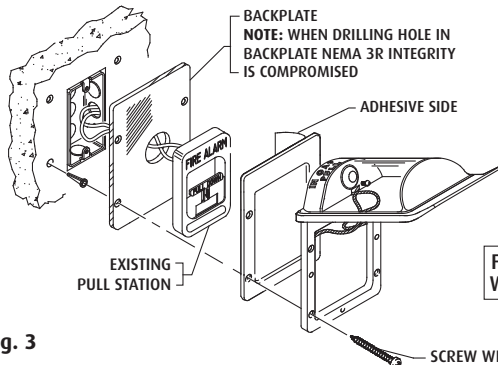
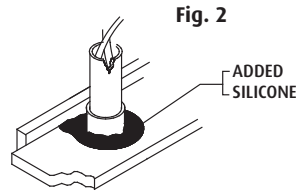
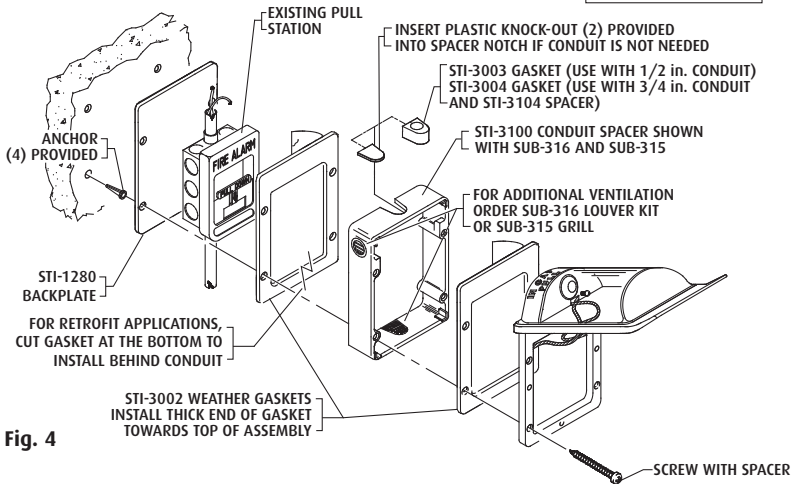

Fig. 3
Fig. 2
Fig. 4
3. If using STI-1280 backplate, refer to Fig. 3 and 4 for install instructions depending on your application.
NOTE: When using STI-3100 spacer, be sure to install conduit knockout (2 provided), any additional ventilation (sub-315 grill and sub-316 louver kit), and gaskets before you tighten to the wall. When using conduit gasket (use STI-3003 with 1/2" conduit and STI-3100 spacer or use STI-3004 with 3/4" rigid conduit and STI-3104 spacer) place gasket around conduit in proper location and tighten frame over spacer. For added protection a bead of silicone may be applied to conduit fitting and between STI-1280 backplate and wall. See Fig. 2. Refer to exploded view of flush and surface mount installation options Fig. 3 and 4.
Use of gaskets is necessary to ensure a proper seal in weatherproof applications. Weather Stopper models ship complete with all necessary gaskets and should be used accordingly. For flush mount weather applications, one STI-3002 must be used between the cover and wall or backplate (see Fig. 3). In surface mount applications, one STI-3002 must be placed between the spacer and wall, while another STI-3002 must be placed between the spacer and cover (see Fig. 4). An STI-3003 or STI-3004 gasket must be used around all entering conduit. For surface mount applications, it is also recommended that the SUB-315 grill be installed in the bottom knockout of the conduit spacer. This helps prevent excessive condensation buildup. STI recommends gasket replacement every five years. (UL requires listing of pull station to be UL Listed for outdoor installations).